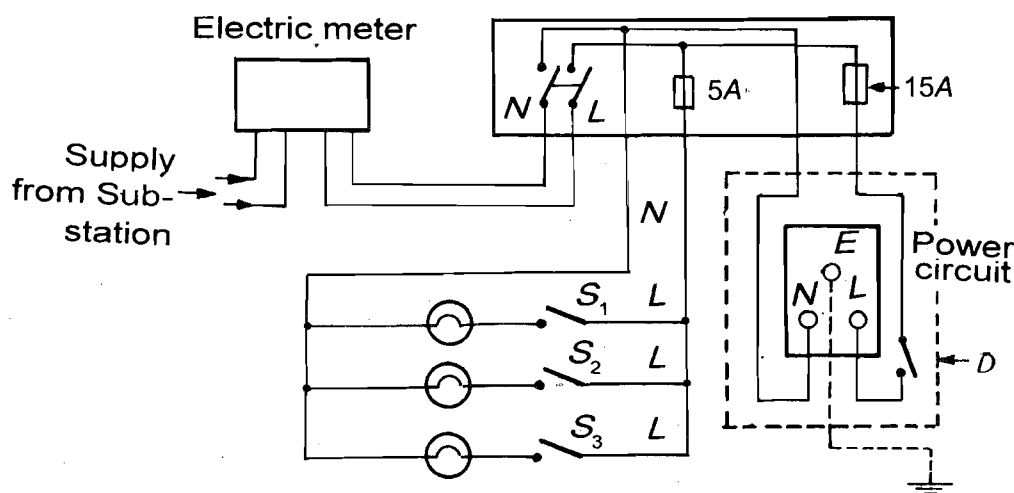

Fig.7.1: A typical laboratory wiring system
Fig.7.1 shows a typical laboratory wiring. Some of its salient features are:
- The switch such as S_1 is always connected in the **live** (L) wire of the circuit so that when it is **off**, the socket (or the bulb holder) is not live. However, if the switch is connected in the neutral wire, the socket is live even when the switch is in off position (see margin remark on page 57). In such a condition, anyone touching the socket or the bulb holder would get a shock. For this reason, you should fix switches in the extension board along the live wire.
- Although neutral wire of the circuit is earthed at the electric substation, for extra safety, the power circuit (Fig.7.1) contains an additional earth wire E .